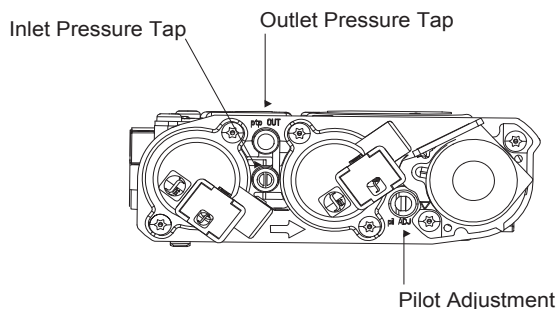

**Figure 7 - Attaching Flexible Gas Lines Together**
3. Attach the flexible gas line to gas supply as per Figure 7. Check tightness of flexible gas line attached to gas regulator of fireplace and check all gas connections for leaks (see *Checking Gas Connections*, page 16).
**NOTICE: Most building codes do not permit concealed gas connections. A flexible gas line is provided to allow accessibility from the fireplace (see Figure 7). The flexible gas supply line connection to the equipment shutoff valve should be accessible.**